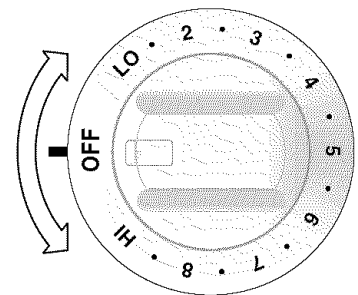

Figure 2
2. Push in and turn the surface control knob in either direction to the desired setting (Figure 2). Turn the knob to adjust the setting if desired. Start most cooking operations on a higher setting and then turn to a lower setting to finish cooking. Each surface element provides a constant amount of heat at each setting. A glowing red surface heating area extending beyond the bottom edge of the cookware indicates the cookware is **too small** for the surface heating area.